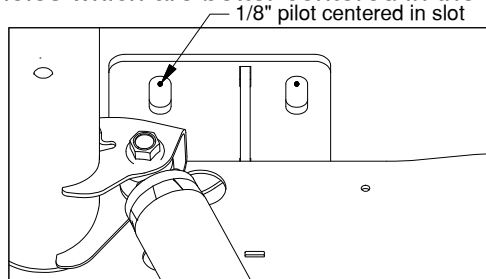

Figure C1: View looking up over the driver side frame.
- 1. Check the hole locations.** Push side plates against the bottom of the bed. Hand tighten hardware so that the side plate is held in position. Look up through the oval slots in the side plate flanges and find the previously drilled 1/8" holes. The 1/8" pilot holes need to be aligned front to back in the center of the slots in the side plate flanges, see Figure C1. If the 1/8" holes are not centered within the slots, drill new pilot holes which are better centered in the slots.